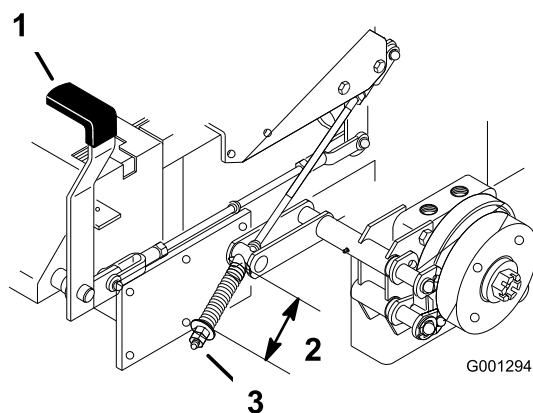

Figure 56
2. Measure the length of the spring. Measurement should be 2-1/2 inch (64 mm) between the washers (Figure 56).
3. If adjustment is necessary, release the parking brake, loosen the jam nut below the spring and adjust the nut directly below the spring (Figure 56). Turn the nut until the correct measurement is obtained. Turn the nut clockwise to shorten spring length and turn counter-clockwise to lengthen the spring.